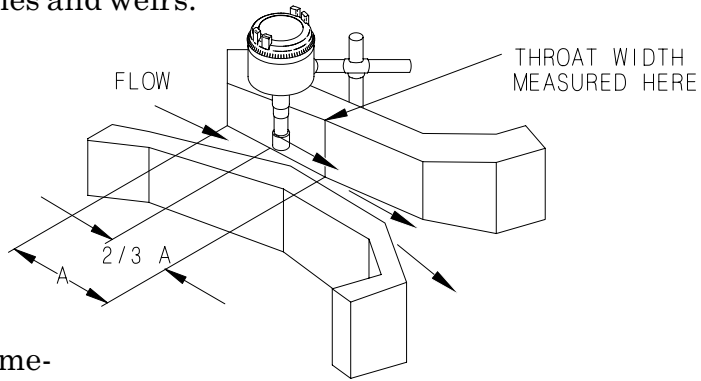

Figure 1-1
1.4 Types of Flumes&Weirs Figures 1-1 through 1-8 show the 505-1320 Ultrasonic Open Channel Flowmeter mounted in different types of flumes and weirs.